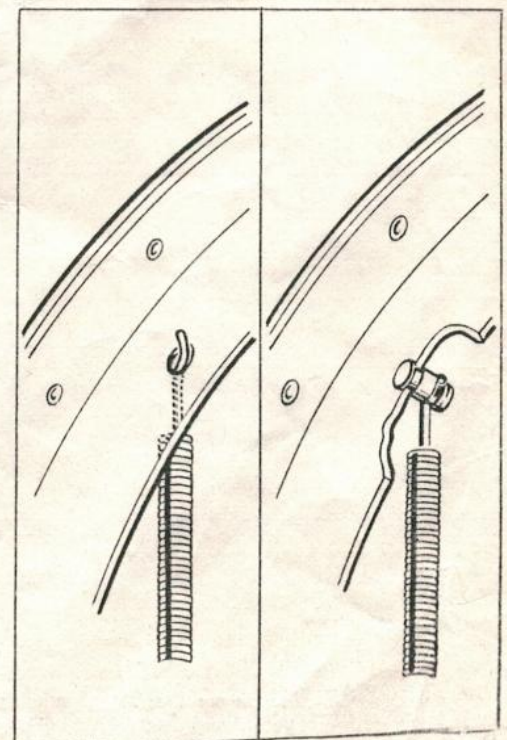

FIG. 6
- 3** Fit new springs to the new shoes making sure that they will be between shoe web and backplate (Fig.6.). Fit the ends of the webs with the half round slot into the adjuster links and insert the other end of one shoe into the expander tappet and ease the other shoe into the tappet with the screwdriver. Keep all grease off the linings and do not handle any more than necessary.